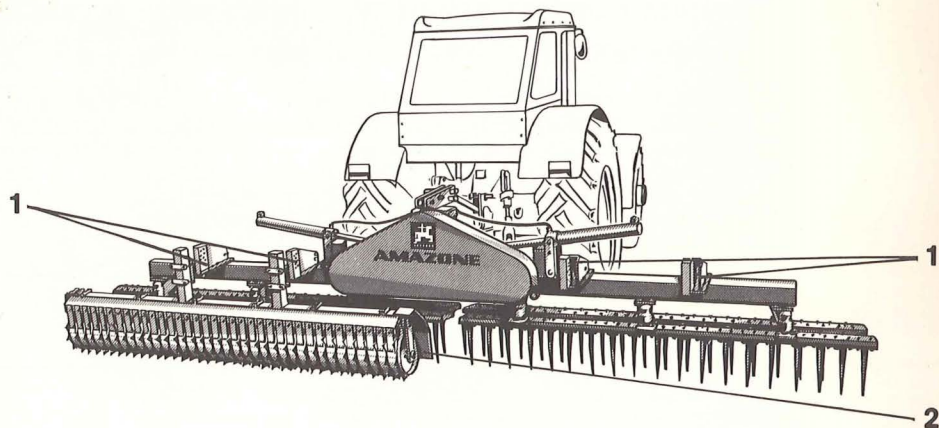
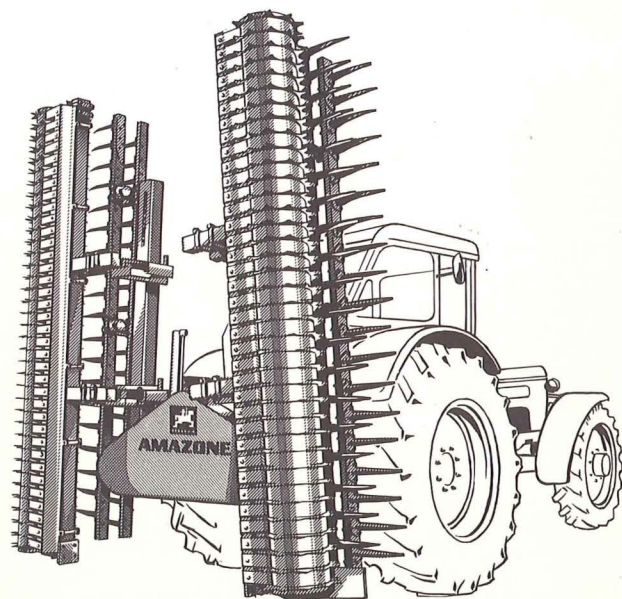

Fig. 11
Fig. 12
1. The super-wide power harrow RE 50 and RE 60 (Fig. 11 and 12) divided into two machine halves with 5 m (16,4 ft) and 6 m (20 ft) working widths consists of a rigid centre frame to which the two machine halves are pivotally hinged. Each machine half is equipped with an oil-bath gearbox and is driven by a central V-belt drive. The pivoting arrangement of the two machine halves around the drive shaft of the two oil-bath gearboxes allows the super-wide power harrow to be operated with the two machine halves in any position. This design enables the super-wide power harrow despite its large working width to be adapted to the contours of the field and for it to be swivelled in hydraulically to a transporting width of 2.6 m (8,5 ft) (Fig. 12).
3. The AMAZONE super-wide power harrow can of course also be used in combination with the AMAZONE packer roller which in addition to the packing action and crumbling action guarantees accurate depth control of the super-wide power harrow. The packer roller is divided in the same way as the super-wide power harrow, i.e. a packer roller 2.5 m or 3 m in width is attached to each machine half of the super-wide power harrow. The depth control is carried out in the usual way by means of marking bolts (Fig. 11/1). (See also section B, point 2). A centre spreader (Fig. 11/2) is arranged in the centre between the two packer rollers which eliminates any ridges of soil.